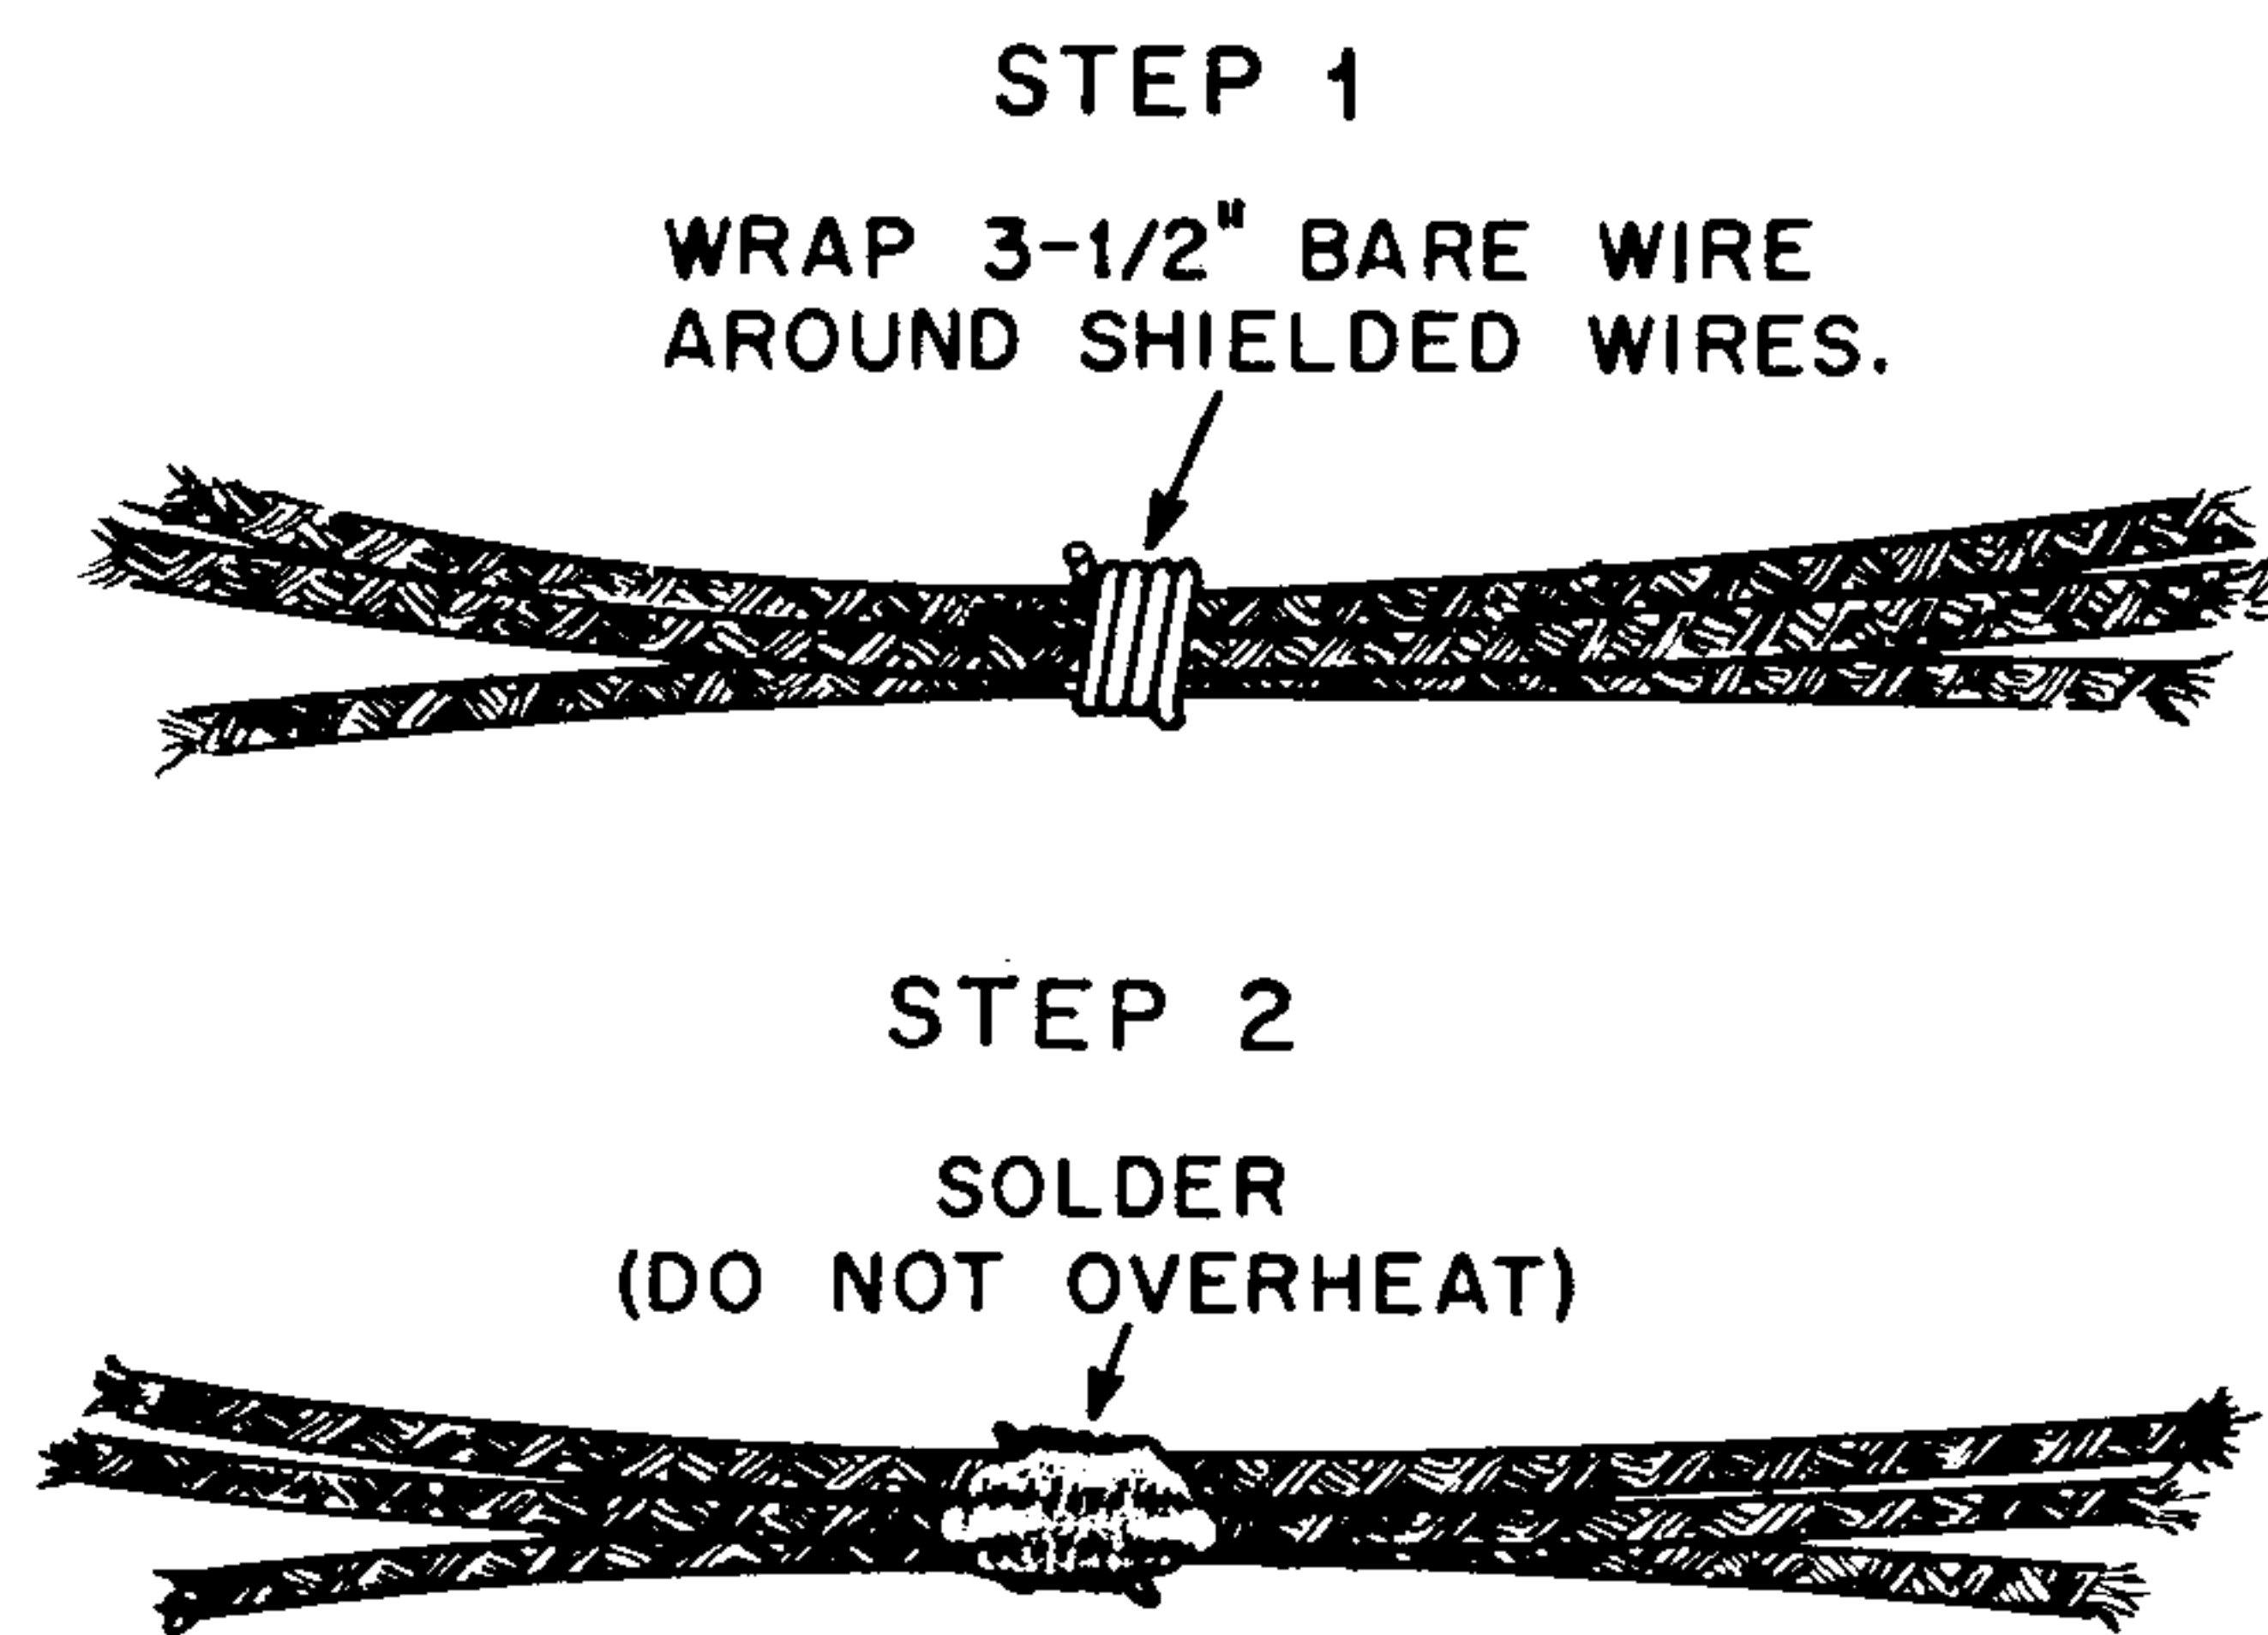

FIGURE 8. GROUNDING SHIELDED WIRES
- ☐ As shown in Figure 8, wrap 3½" of the bare wire around the three shielded wires. Solder them together at this point. Push these wires neatly down against the chassis.